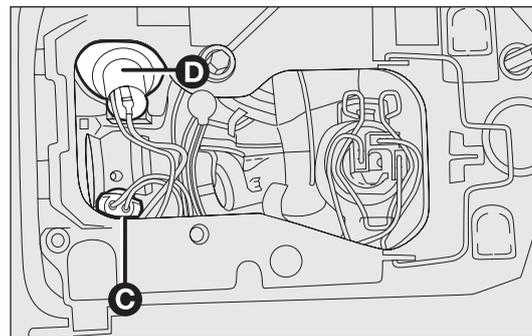

fig. 142
- turn the bulb-holder C-fig. 142 and remove it (it is pressure-fit);
- turn the bulb-holder D-fig. 142 and remove it (it is pressure-fit);